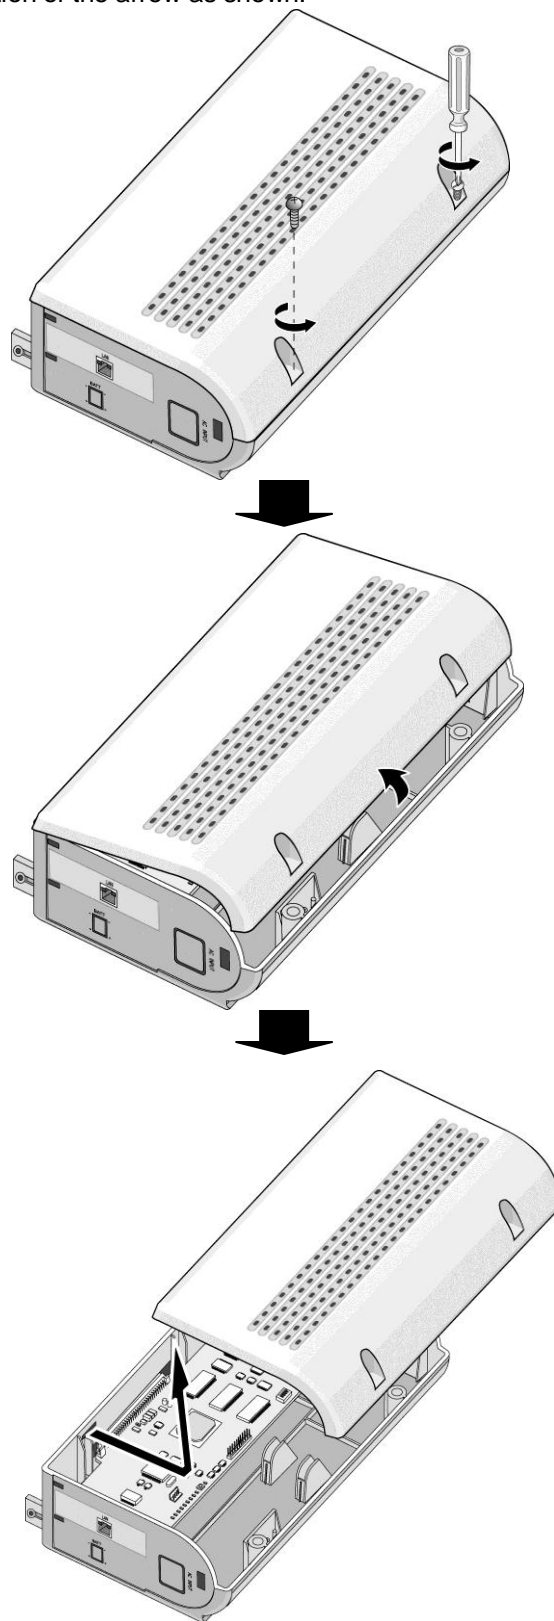

Figure 4.2.1 Opening the front cover
1. Turn the screw counter-clockwise to loosen as shown in Figure 4.2.1.